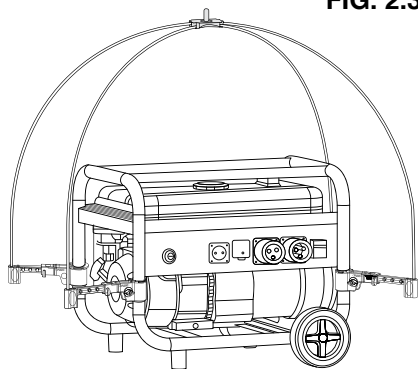

FIG. 2.3
f. Check the clamps; the frame rods should be fully seated into the clamps. (Fig. 2.3) The clamp may exhibit a slight upward lean; this is due to the force being applied to the clamp by the fiberglass rods.